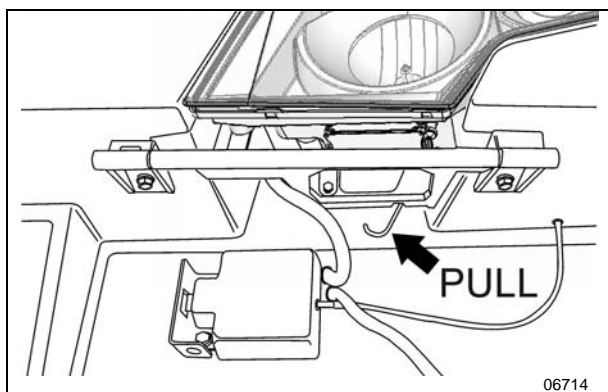

FIGURE 23: ROCKING THE HEADLIGHT ASSEMBLY
3. Pull on the rod shown on FIGURE 23 to pivot the headlight assembly.